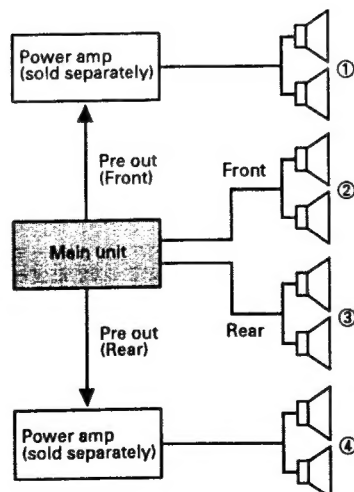

Fig. 5
This fader controls the balance between speakers ② and speakers ③, which are shown in Figure 5.
This unit has a fader that controls the balance between speakers ② and ③, shown in Figure 5, using button [1], and a prefader that controls the balance between speakers ①, ②, ③ and speakers ④.
- DEH-P605 does not have a pre out for the front, speaker ① cannot be connected. The pre-fader function of this unit controls the balance between speakers ①, ②, ③ and speaker ④, which are shown in Figure 5.